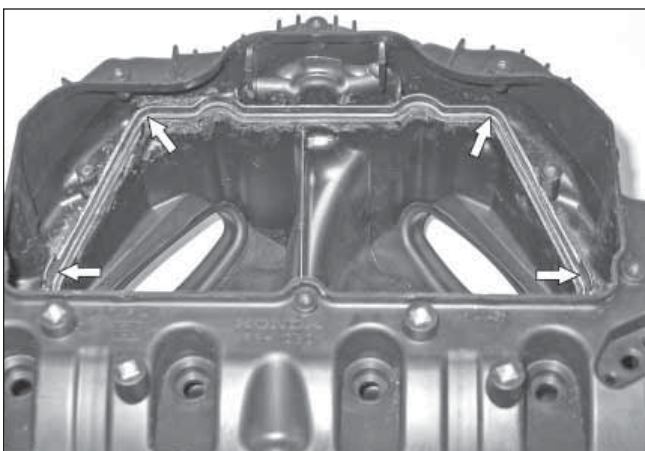

Fig. 3
4. Remove the stock o-ring where the air filter seats. (Fig.3)